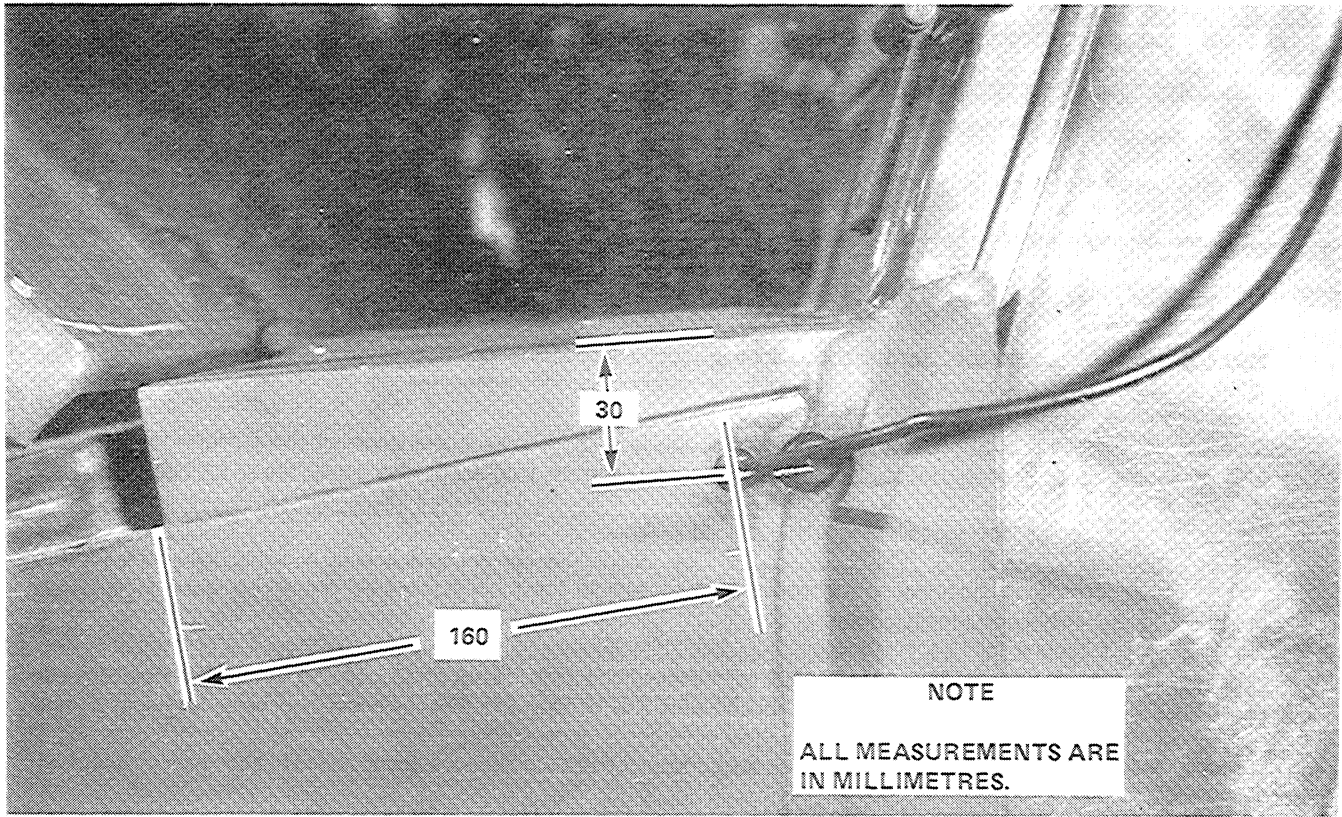

Figure 4 Measuring Hole for Warning Light Wiring
- a. See Figure 4. Measure and scribe the warning light electric wiring hole location on the left side of the vehicle.
- c. Install the rubber grommet (35) into the drilled hole.
- e. From inside the vehicle, insert the smaller terminal of the fabricated strut ground wire (32) through the existing hole in the inner body reinforcement and the grommet (35), leaving the wire to hang loose.
- g. Using a self-tapping screw (27) with internal tooth washer (26) secure wire (32) to the light strut (31).
- h. Insert the strut wire 84a through the grommet (35) in the vehicle body and through the existing hole in the inner body reinforcement.
- j. Fit the light strut (31) upper support bracket over the mirror bracket and secure using the two screws (37) with lockwashers (40).